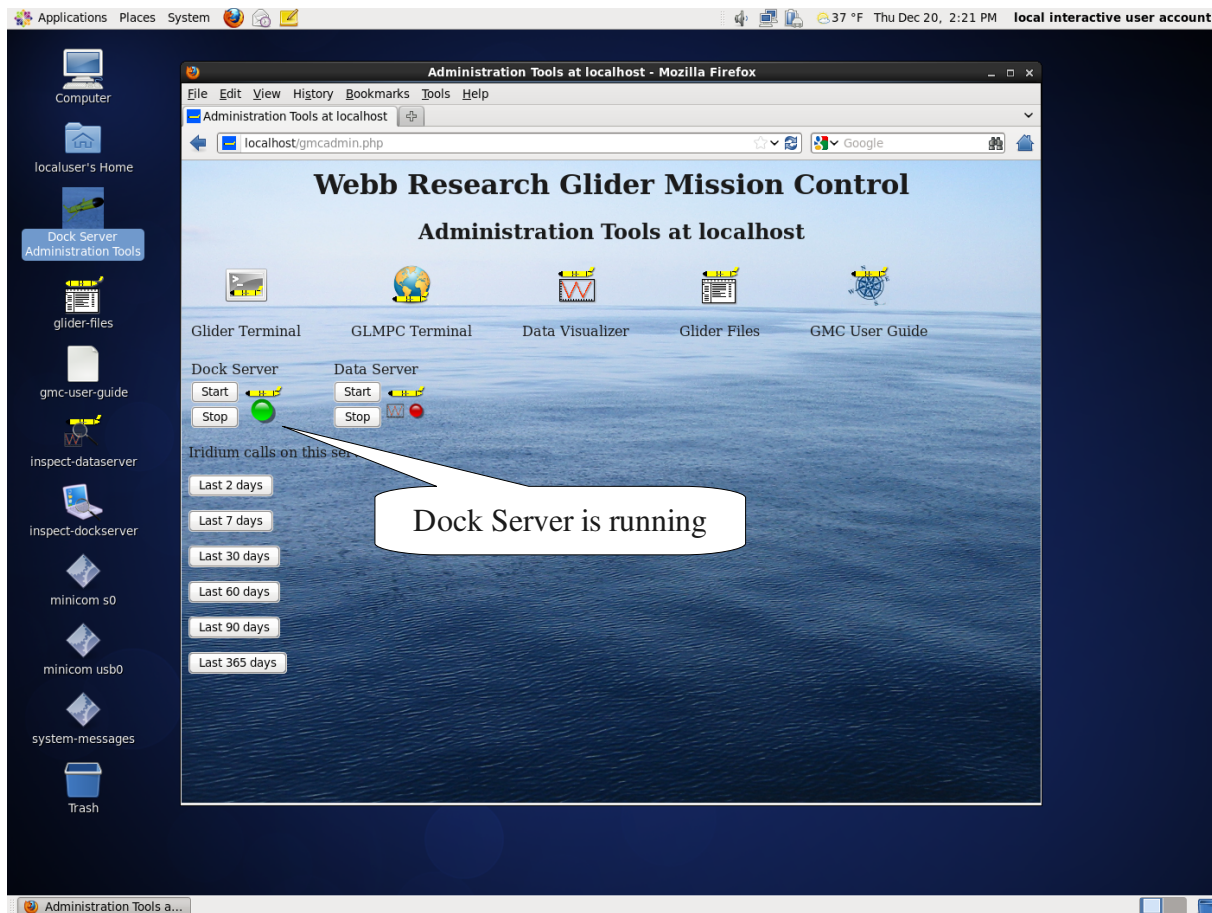

Figure 2-3. Browser window showing Dock Server is running.
3. To start Dock Server, click the “Start” button under the “Dock Server” heading. Once Dock Server starts, the state icon turns green (Figure 2-3).